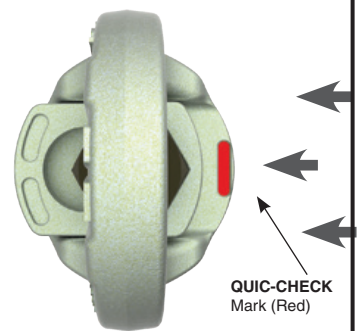

Figure 2
- Move the slide lock into the installation position, such that the four flats on the bolt head are engaged. (Figure 2)
- Move the slide lock into the installation position, such that the four flats on the bolt head flats are engaged. (Figure 2)